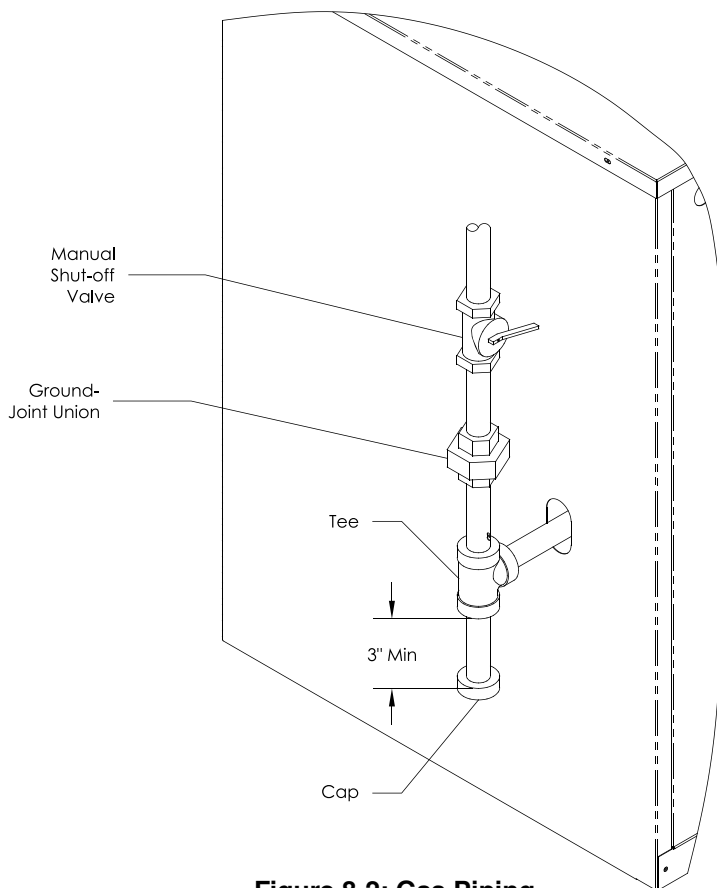

Figure 8-2: Gas Piping
- D. Install sediment trap, ground-joint union and manual shut-off valve upstream of combination gas valve (within 6 ft. of boiler). See Figure 8-2